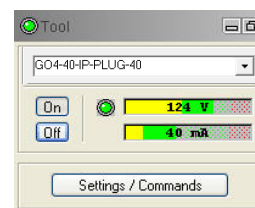

Figure 4-1 Tool panel
2. Select the relevant ELOG/IP tool from the drop down list (**Figure 4-1**) in the software's **Tool** panel (if your tool is not listed check that your tool configuration file is stored in the designated folder on your computer).
4. On the **Tool** panel (**Figure 4-1**) click the **Settings / Commands** button to configure your tool for the ELOG and/or IP modes (see chapter 3.4 for details).